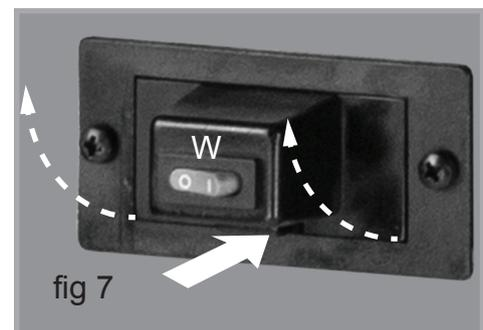

fig 7
- Press the tab located below the laser switch (fig 7) and raise the cover.